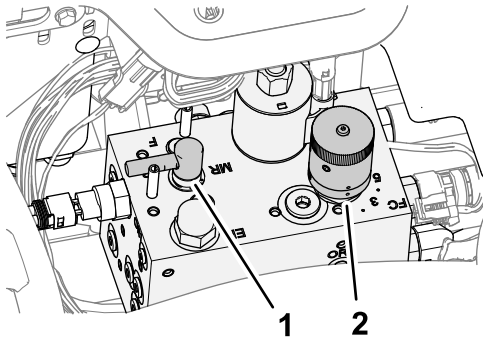

Figure 93
- Move the backlap lever to the R (backlap) position (Figure 93).